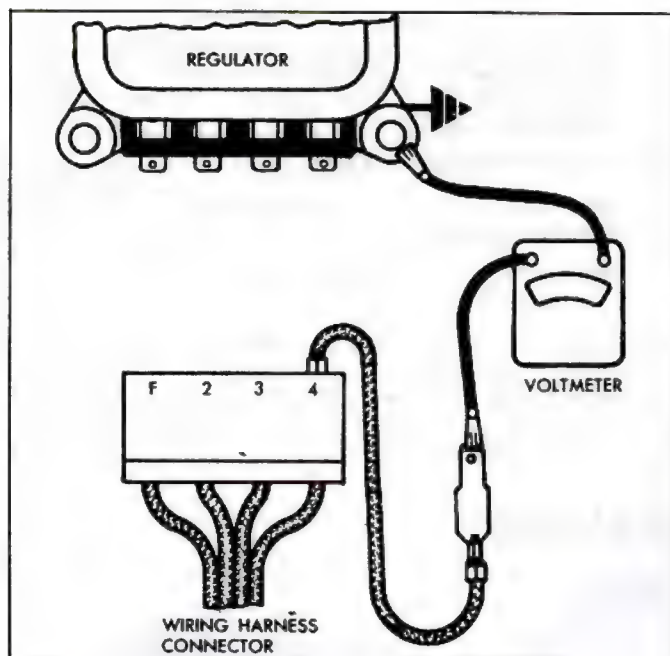

Fig. 9c—Circuit Resistance Wire Test
1. Connect a test lamp from the wiring harness connector terminal to ground as shown in Figure 9c (Step 1).